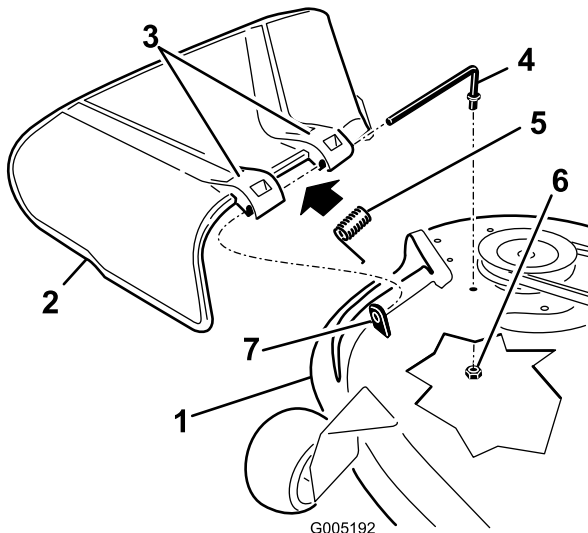

Figure 56
4. Replace the grass deflector (Figure 56).
6. Place the spring on the rod, with end wires down, and between the grass deflector brackets. Slide rod through second grass deflector bracket (Figure 56).
7. Insert rod at front of grass deflector into short stand-off on deck. Secure rear end of rod into the mower with a nut (3/8 inch) (Figure 56).
1. Locate items shown in Figure 56.
2. Remove the nut (3/8 inch) from the rod under the mower (Figure 56).
3. Slide the rod out of the short stand-off, spring, and grass deflector (Figure 56). Remove the damaged or worn grass deflector.